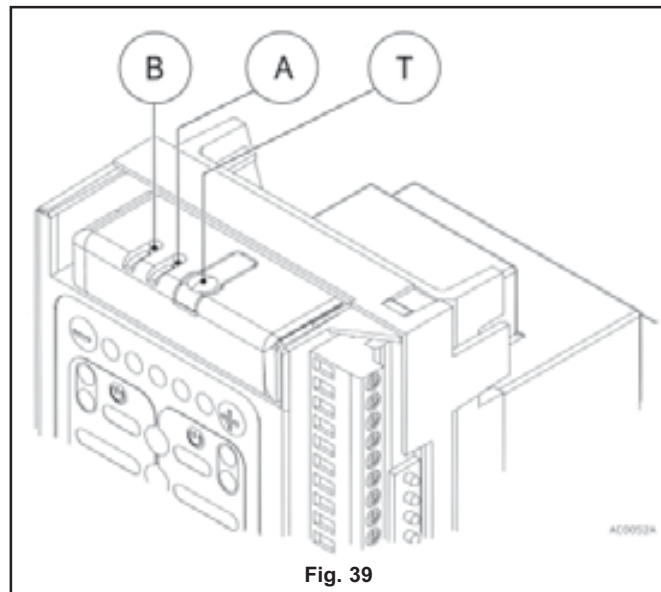

Fig. 39
The receiver (fig. 39) is characterised by a key (T) and two leds (A and B).
- By pressing the T key once, the first led (A) will light and channel 1 will become available.
- By pressing the T key a second time the second led (B) will light and Channel 2 will become available.
- To enable a radio control key on channel 1 (PEDESTRIAN), one must act while the led A (fig. 39) is lit; to indicate that it is in enabling phase led A switches off and then on again.
- Press and hold down the key T (fig. 39).